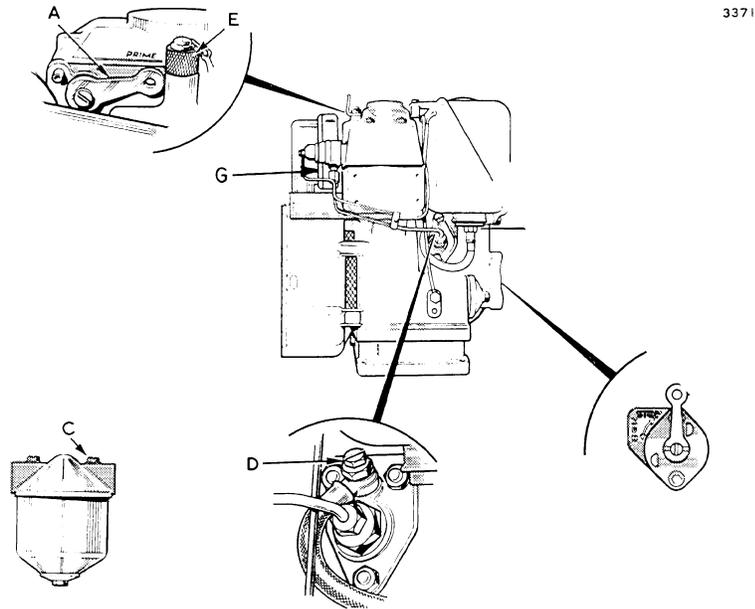

Fig. B2
- (1) Remove the engine lubricating oil filler cap (push down and twist) and fill sump with lubricating oil to high mark on dipstick approximately 3.25 pints. Do not overfill. Select an approved grade listed and continue to use it. (Refer to Technical Data, "Approved Lubricants.")
- (2) Fill fuel tank. No.2 diesel fuel oil is recommended. No. 1 is permissible but No. 2 is preferred because of its higher lubricant quality.
- (3) Lift the decompression lever (A, Fig. B2), that is, vertically, and rotate the drive pulley counter-clockwise by hand approximately 12 revolutions to circulate the lubricating oil. Replace decompression lever to its horizontal position. (The decompression lever releases the pressure in the cylinder allowing the engine to crank with no resistance.)
## F. Bleed Fuel System (Fig. B2)